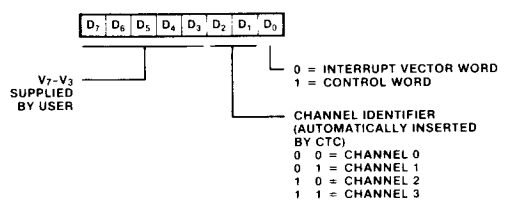

Figure 7. Interrupt Vector Word
**Interrupt Vector Programming.** If the Z80 CTC has one or more interrupts enabled, it can supply interrupt vectors to the Z80 CPU. To do so, the Z80 CTC must be pre-programmed with the most-significant five bits of the interrupt vector. Programming consists of writing a vector word to the I/O port corresponding to the Z80 CTC Channel 0. Note that D0 of the vector word is always zero, to distinguish the vector from a channel control word. D1 and D2 are not used in programming the vector word. These bits are supplied by the interrupt logic to identify the channel requesting interrupt service with a unique interrupt vector (Figure 7). Channel 0 has the highest priority.